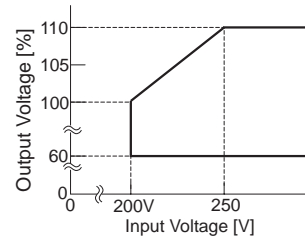

Fig.4.7 DBS700B Output Voltage Adjustment Range
■ The output adjustment range for DBS700B is shown in Fig.4.7.